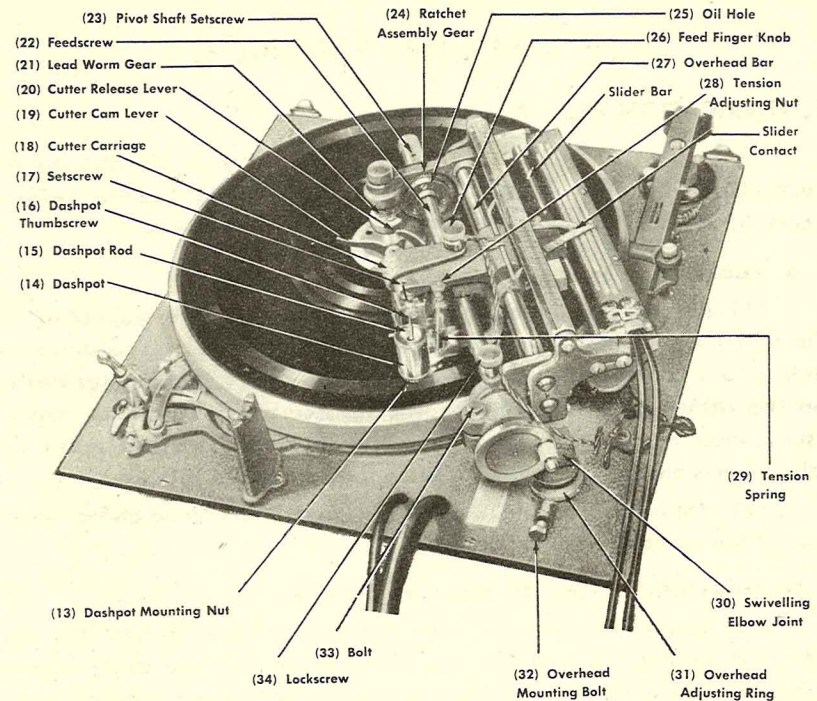

Figure 8. Top view of the 6N Turntable.
(4) Tighten the overhead-mounting bolt (fig. 8 (32)) with the supplied wrench.
(5) Raise the dashpot cover and fill the dashpot with the supplied liquid (glycerine) to within  $\frac{1}{4}$  inch of the top. Replace dashpot cover.
(6) Push the pick-up head into the pick-up arm spring clips and tighten the screw and nut.
(a) Remove the two nuts at the top of the slider case and lift the dust cover off as shown in figure 8.
## 2. OVERHEAD ASSEMBLY (fig. 8).
## 4. OVERHEAD MECHANISM ADJUSTMENTS (fig. 8).